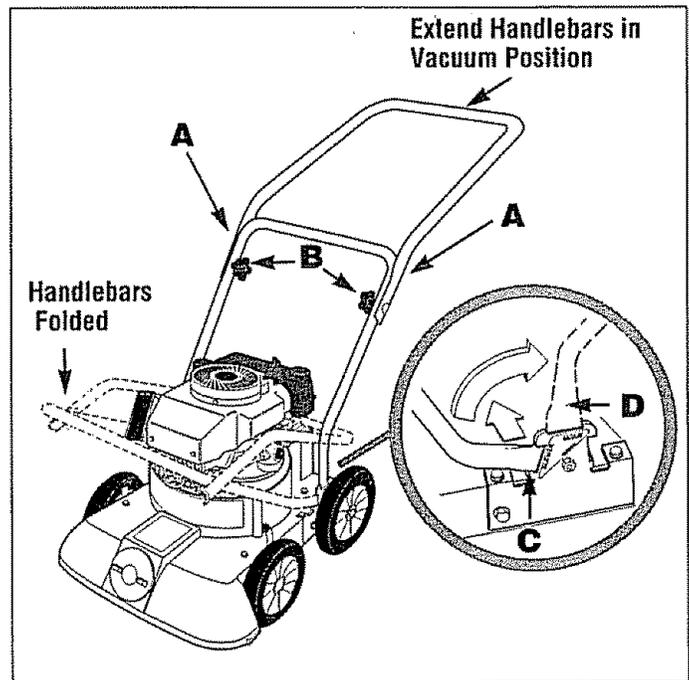

Figure 2: Handlebar position for vacuuming.
UNFOLD THE HANDLEBARS (see Figure 2)
1. Squeeze the handlebar end (with decal "Push in Here") toward the center of the machine to release end from the notch in the mounting bracket (C) and swing the handlebars up over the machine toward the rear.
2. Position the handlebar ends in the "vacuum" notches of the brackets (D in Figure 2 inset).
3. Unfold the handlebars until the channels on the upper left and right handlebars are aligned with the lower handlebars (A). If necessary, loosen knobs (B) before unfolding handlebars.
4. Tighten the knobs (B).